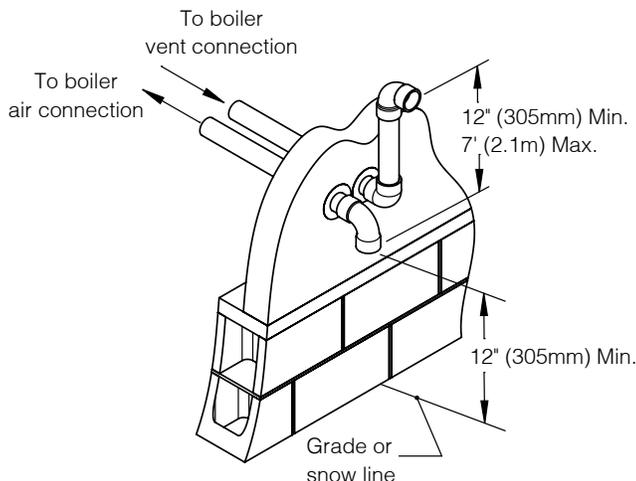

Figure 8-2: Fittings Terminal
- Vent terminates outside building in elbow, coupling, or end pipe pointing outward away from wall and air terminal. Air terminates outside building in downward-facing elbow. Air terminal may be to left or right of vent terminal. See Figures 8-2 and 8-4.